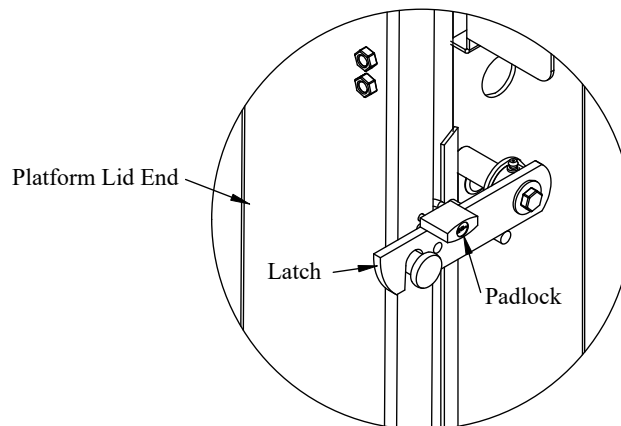

Figure 12: Padlock location.
9. **Lock** the padlock through the hole in the platform (Figure 12).